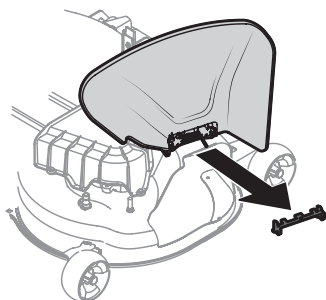

Figure 4
- Check the tractor deck for a shipping brace that may be holding the chute deflector upward for shipment. If the brace is present, it must be removed before operating the tractor. Holding the chute deflector fully upward, remove the shipping brace. Lower the chute deflector and discard the shipping brace (Figure 4).